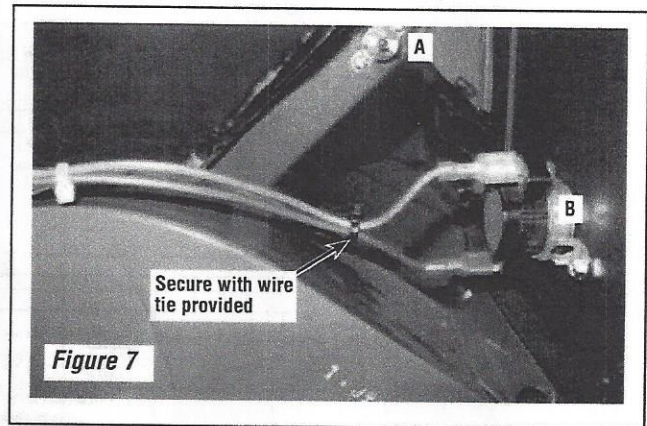

Figure 7
- 4) Using the wire tie provided, secure the two wires together to avoid contact with any surrounding components. See **Figure 7**.